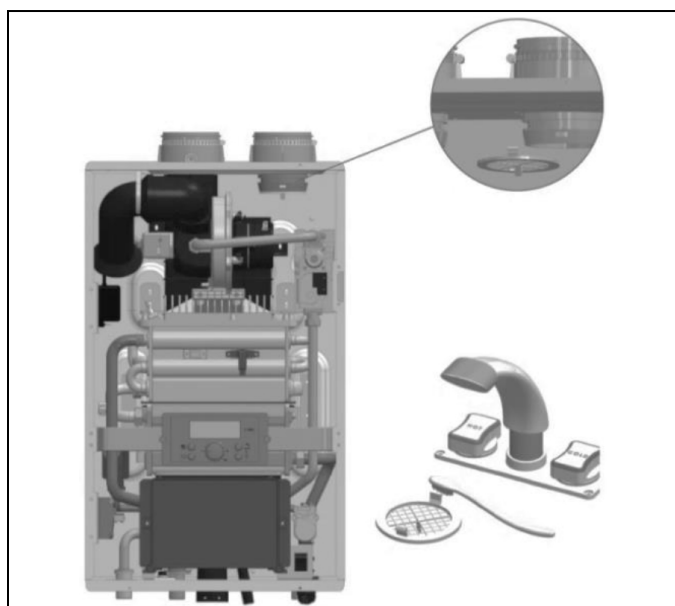

Figure 49 - Cleaning the Air Intake Filter
6. Remove the filter from the plastic assembly and clean it with a toothbrush and clean running water. See Figure 49.